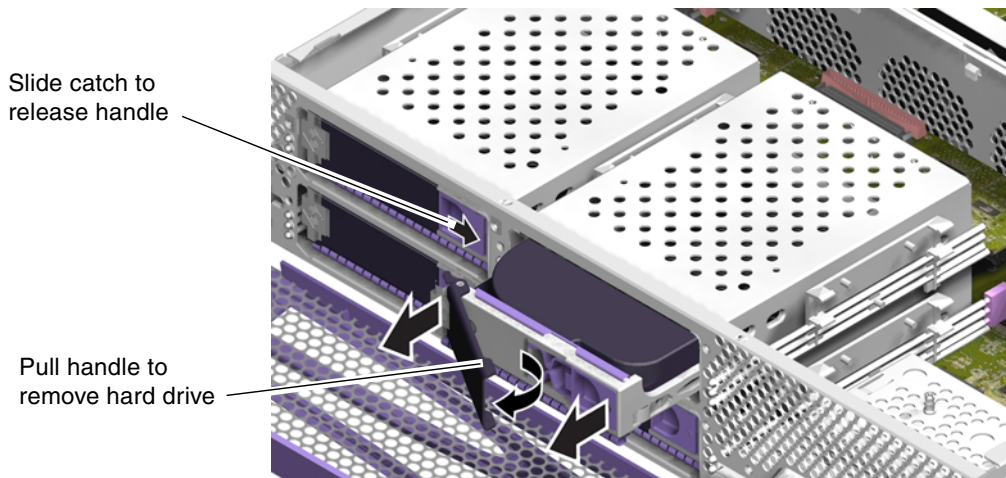

FIGURE 1-9 Removing a Hard Drive
4. **Slide the catch at the front of the hard drive to the right (FIGURE 1-9).**